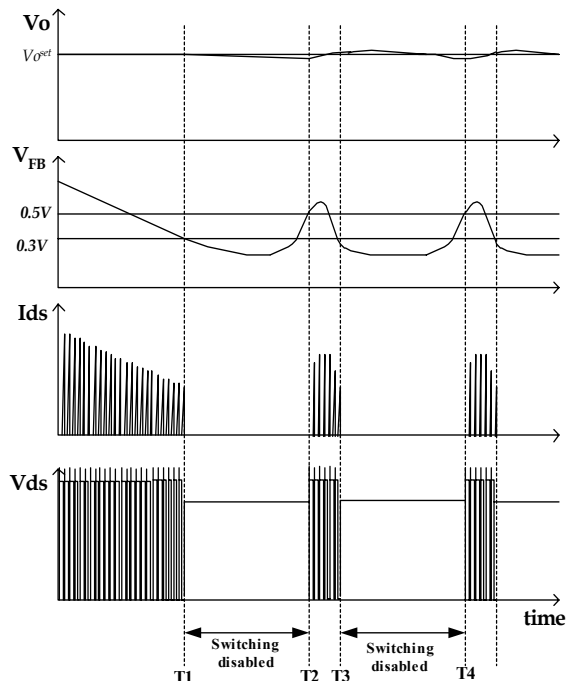

Figure 10. Waveforms of burst operation
**6. Burst operation :** In order to minimize power dissipation in standby mode, the FSCM0765R enters into burst mode operation at light load condition. As the load decreases, the feedback voltage decreases. As shown in Figure 10, the